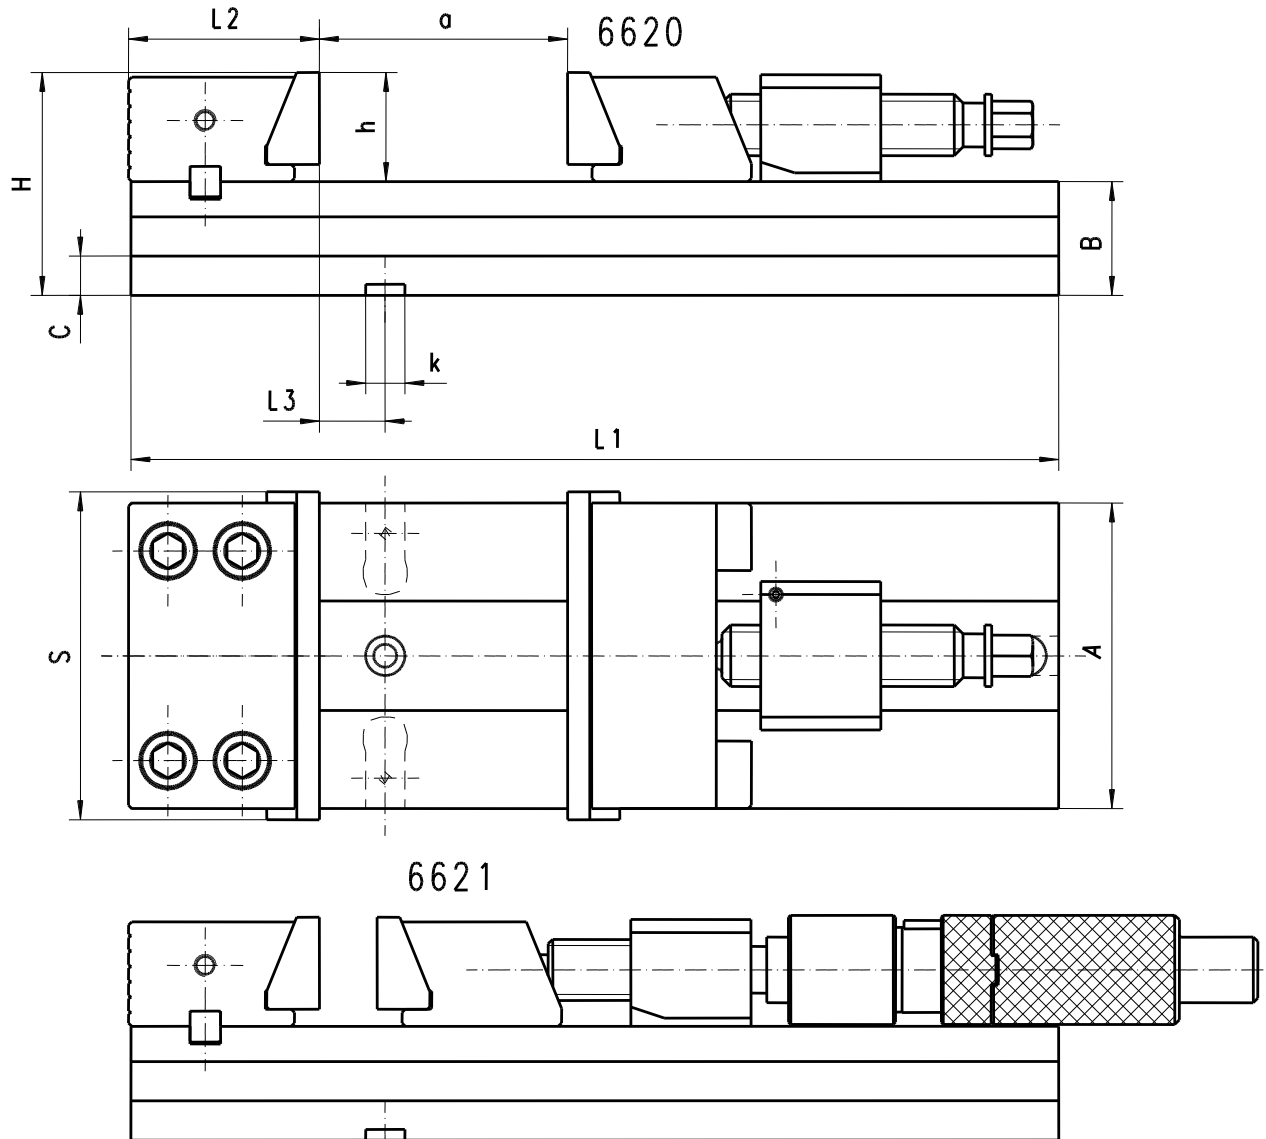
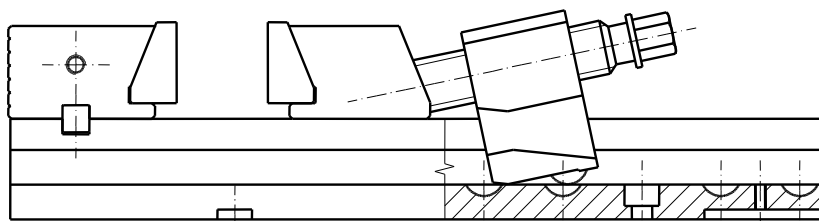
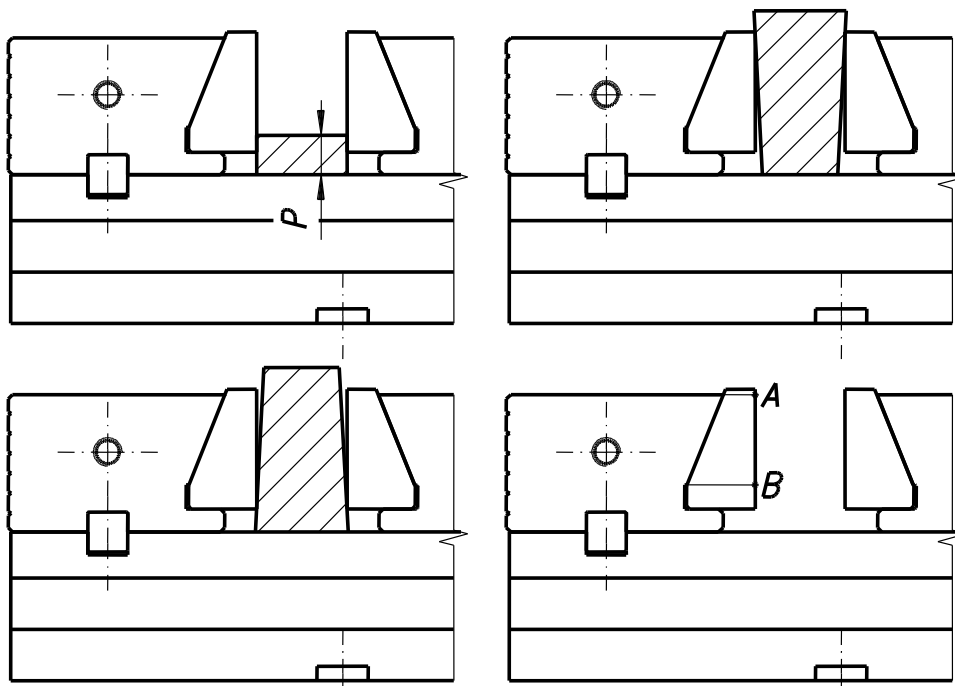

Fig. 3. Basic dimensions of precision machine vises- type 6620 and 6621.
Fig. 9. Changing the opening range
Fig. 11. Inadmissible shape of workpiece.
Basic specifications of precision machine vises - type 6620 and 6621 are shown at Fig. 3 and Table 1.
Before changing the opening range clean vise base (1), lead screw (9) and holder (9). To change the opening range just tilt the holder (8) forward and move it to engage the proper recess in the base (Fig. 9).
Inadmissible shape, thickness and way of clamping workpieces in vise jaws presented in Fig. 9 are inadmissible. The workpieces should be clamped at the A-B section of clamping insert (Fig. 11). The thickness of clamped workpieces ("P" dimension as in Fig. 11) should not be less than $\frac{1}{3} h$ (the "h" values as presented in Fig. 3).